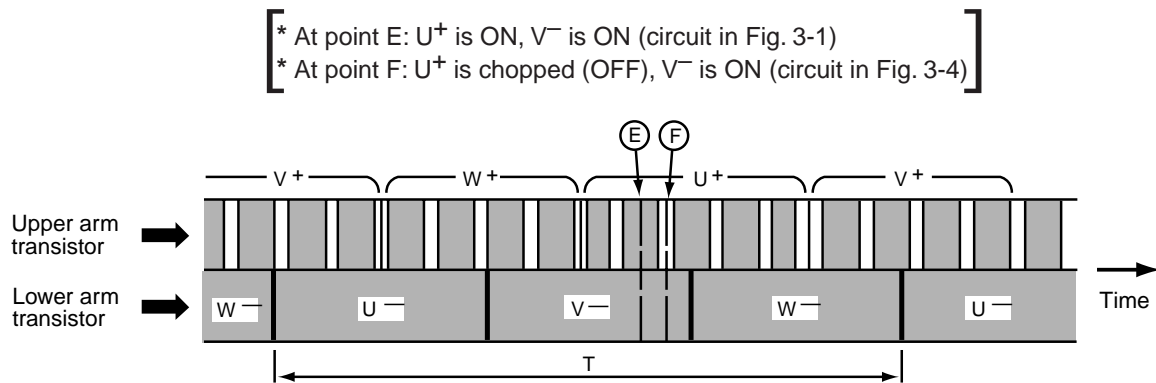

Fig. 3-2 Switching order of power module
- DC 230V is input to power module and power module switches power supply current according to rotation position of magnet rotor. The switching order is as shown in Fig. 3-2.
- Time T in Fig. 3-2 shows the switching period, and relation with rotation speed (N) of the compressor is shown by formula below;